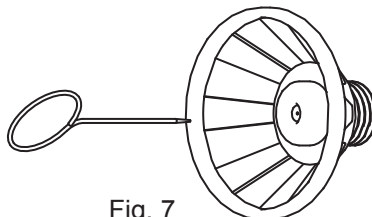

Fig. 7
Carefully clean all the disassembled parts with a cleaning agent. Use a cleaning needle (6) to remove any paint residue from the nozzle hole (Fig. 7).